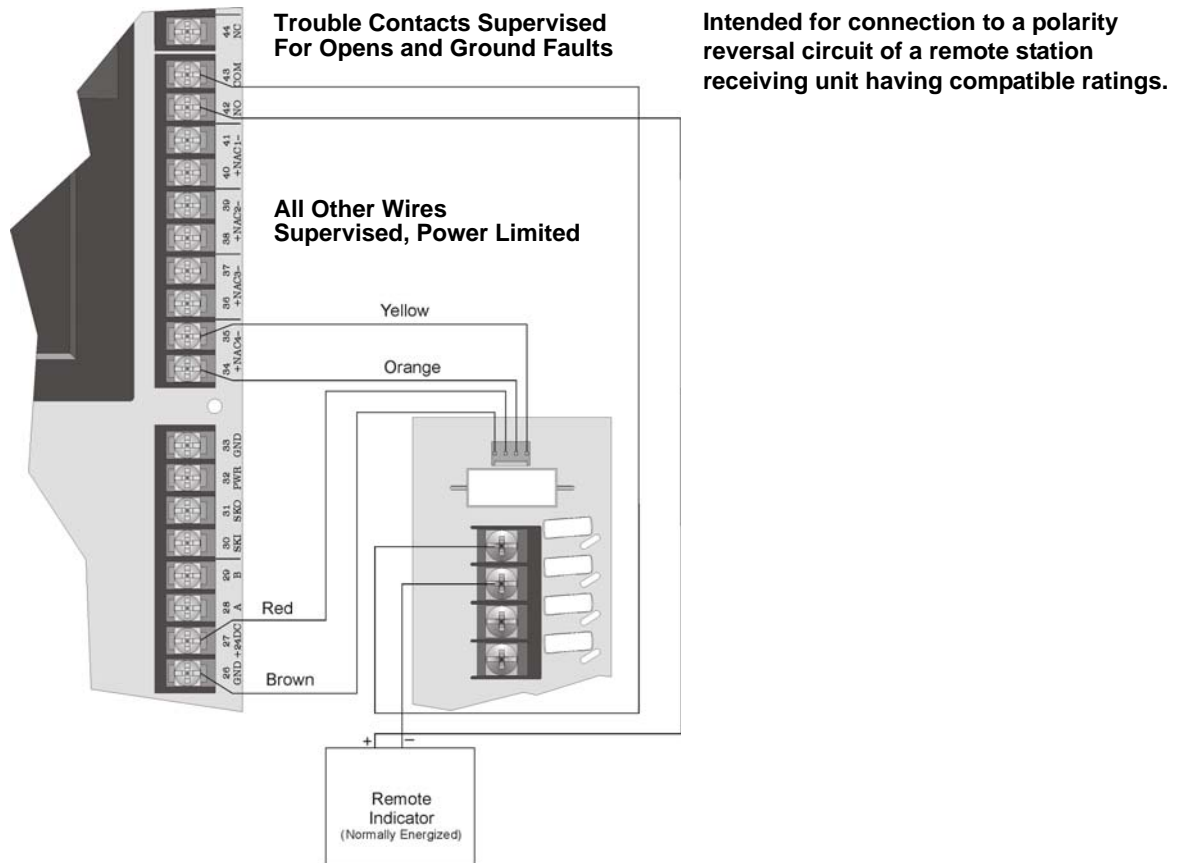

Figure 3-27 Polarity Reversal Connection
2. Wire the 5220 to the SK-5208 using the four-wire pigtail provided as shown in Figure 3-27 (next page). This diagram also shows how to connect the 5220 to the remote indicator.
3. Program one of the notification circuits to be Direct Connect (Figure 3-27 uses NAC 4 and Relay 4). The relay and NAC circuits are paired when selected as direct connect. For example, if NAC 4 is programmed as Direct Connect then relay 4 used for the trouble output. Do not program the NAC for Silence or Supervision (NACs with EOL).